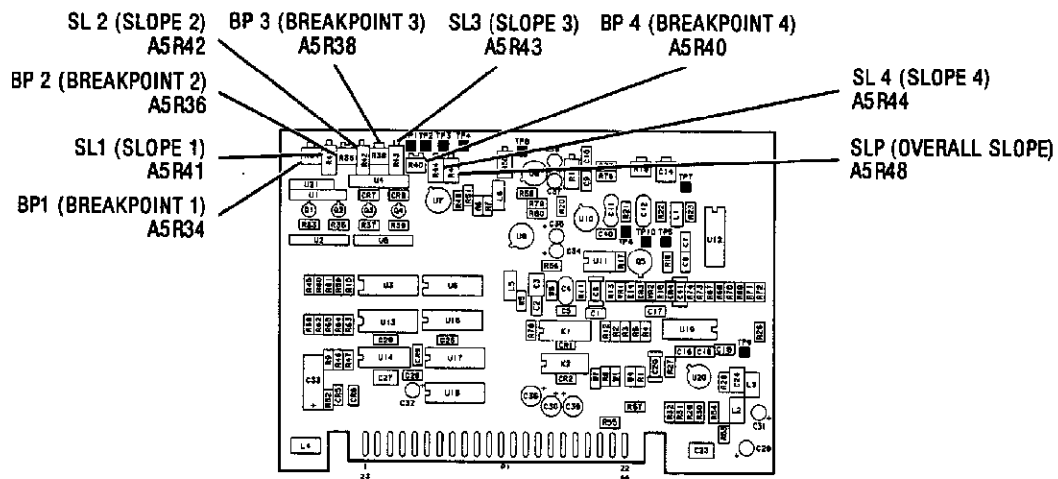

Figure 5-38. Internal Leveling Adjustment Locations
2. Adjust all breakpoint potentiometers fully clockwise to effectively remove the circuit from the ALC leveling loop. These potentiometers are A5R34 (BP1), A5R36 (BP2), A5R38 (BP3), and A5R40 (BP4). Refer to Figure 5-38 for adjustment locations.